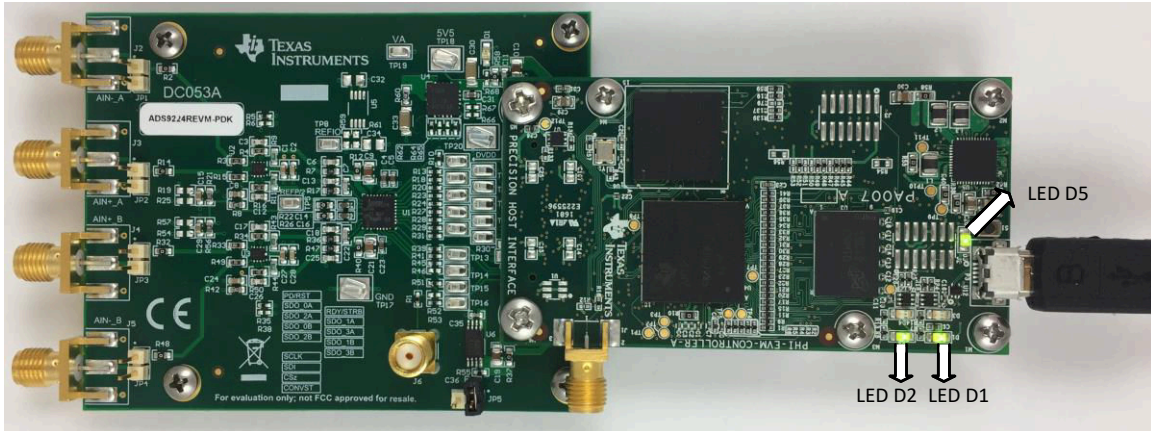

Figure 6-1. EVM-PDK Hardware Setup and LED Indicators
1. Connect the ADS9224REVM to the PHI, and install the two screws, as indicated in Figure 6-1.